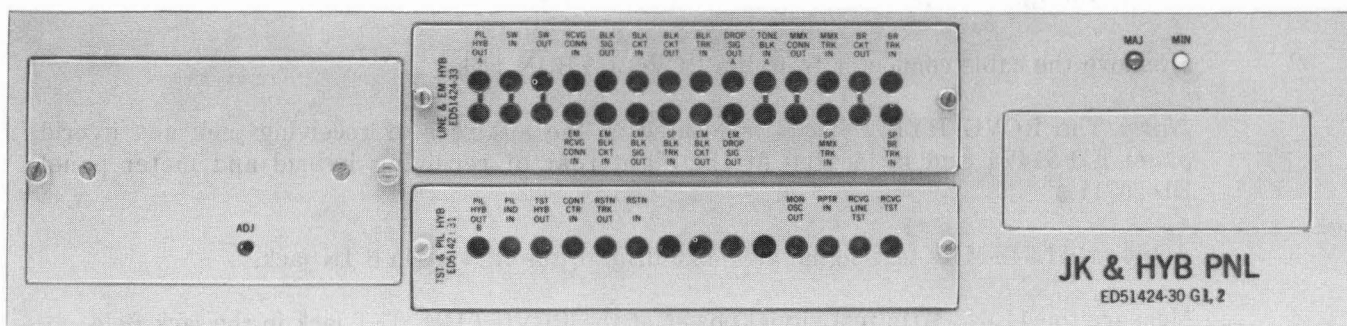
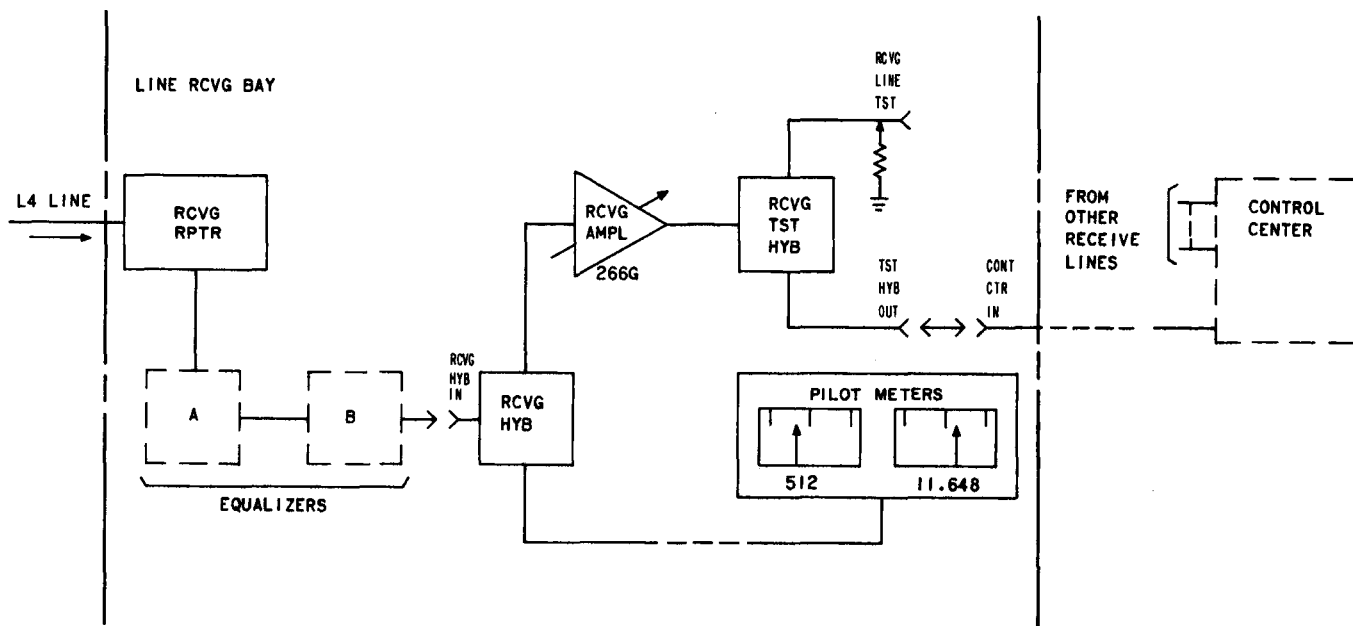

Fig. 1—Receiving Jack and Hybrid Panel ED-51424
Fig. 2—Receiving Amplifier Circuit
An adjustable receiving amplifier is provided for each L4 receive line. The amplifier is mounted at the front of receiving jack and hybrid panel ED-51424 (Fig. 1) provided in later L4 line receiving bays and in L4S line bays. In earlier L4 line receiving bays, the amplifier is mounted at the rear of receiving jack and hybrid panel ED-50711 (MD). Figure 2 shows the receiving amplifier circuit.